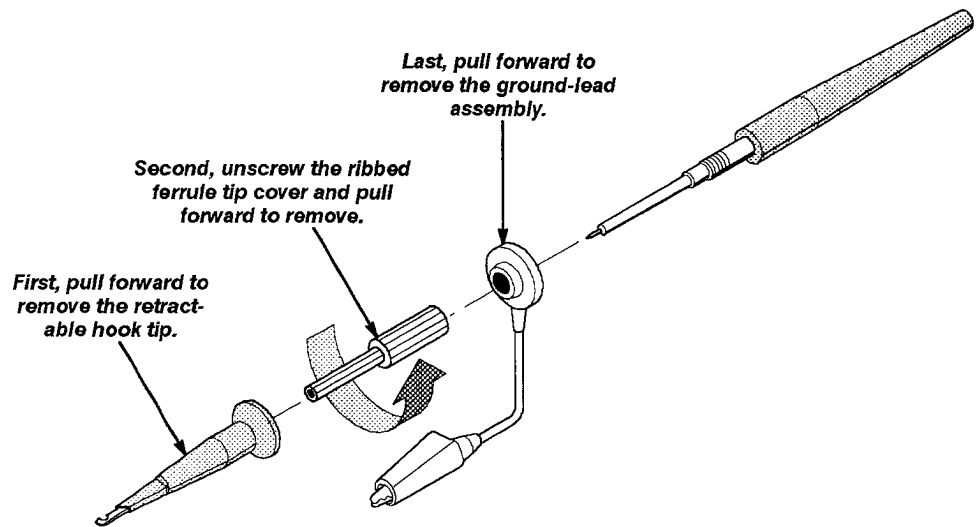

Figure 5-5: Exposing the Inner Probe Tip
- a. *Expose the Inner Probe Tip:* Follow the instructions in Figure 5-5.
- b. If substep 2b was passed, the probe adjustment is finished. Reverse the instructions in Figure 5-5, on page 5-12, to reinstall the retractable hook probe tip.
- The probe tip should be exposed from the procedure *Measure Probe Bandwidth*. If not, follow the instructions in Figure 5-5 on page 5-12 to expose the probe tip.
3. *Disconnect the hookup:* Unplug the probe from the BNC-to-probe tip adapter. Reverse the instructions in Figure 5-5, page 5-12, to reinstall the retractable probe tip.